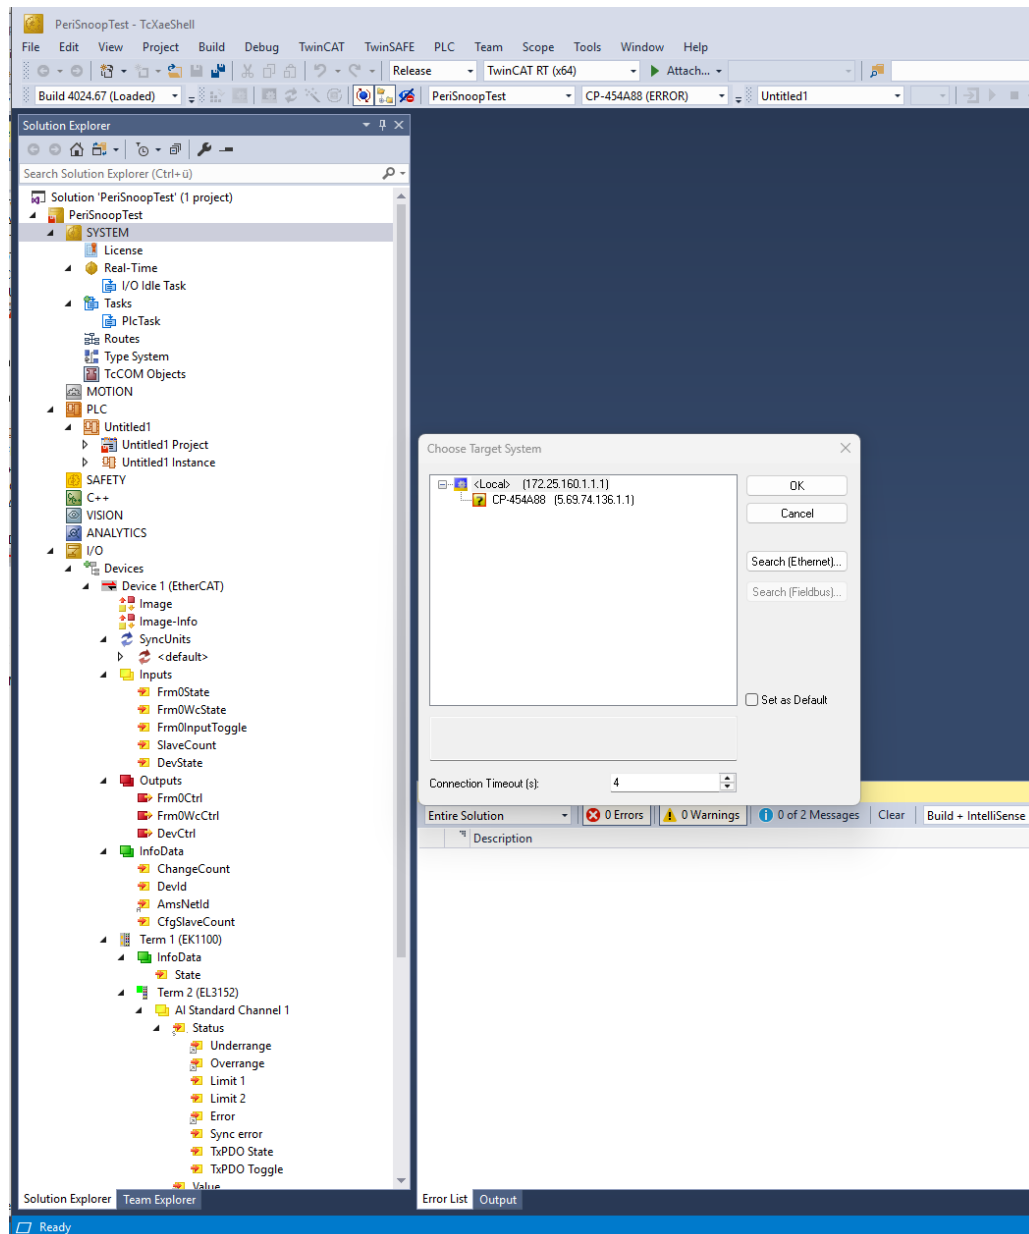
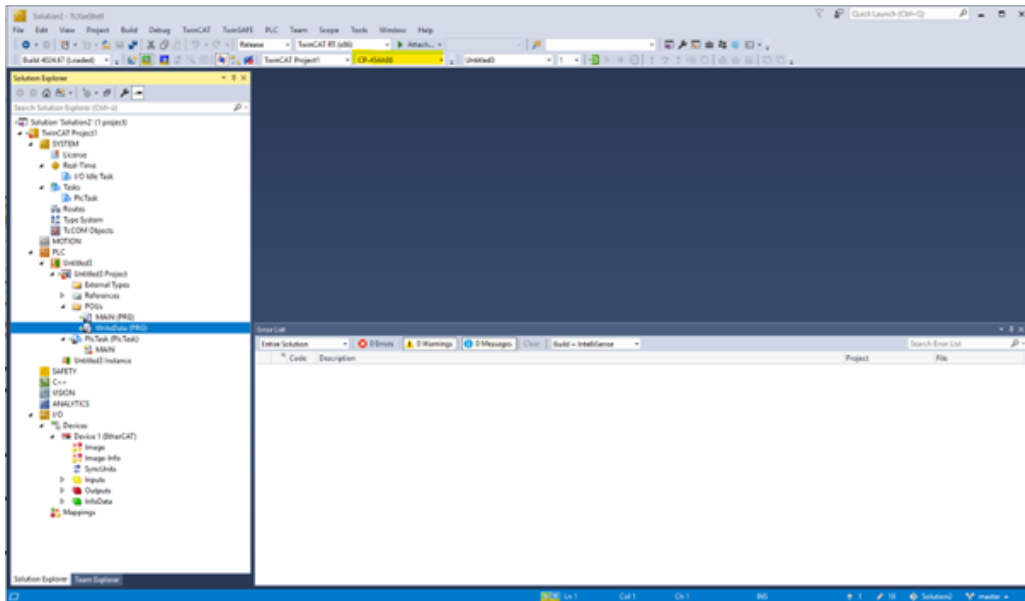

Figure 12: Find Target Controller
Figure 13: Select the CP-454A88 Target Controller
10. After making the physical connections of the system, to establish a connection from the development environment to the controller, the AMS Net ID set on the controller is required. From the menu, where you see <Local>, click on it to “Choose Target System”. Select Search (Ethernet) if the device is not listed and click OK once the device is found as seen in Figure 12 Click on Yes if the Update of NetIds of I/O Devices or changing platform solution due to target platform difference is asked. You should be able to add the route successfully and then see the CP-454A88 reachable on the target system tab as highlighted yellow in Figure 13